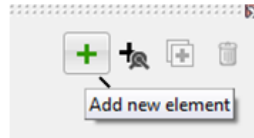

Figure 1.9. Adding new body
2. Create new body by clicking the **Add new element** button, see Figure 1.9.